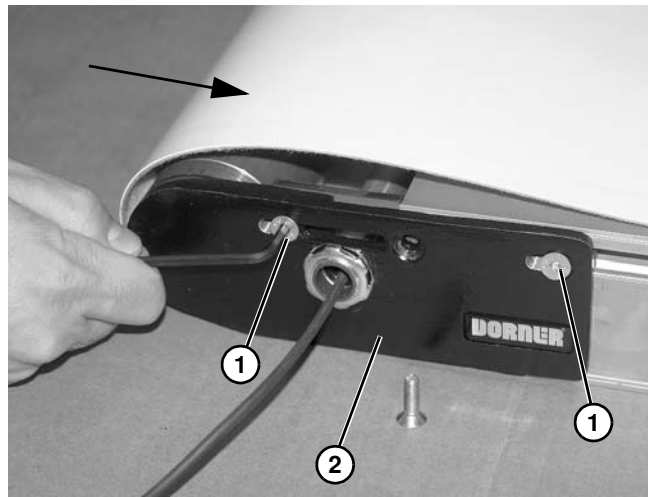

Figure 98
3. Loosen screws (Figure 98, item 1) from idrive head plate (Figure 98, item 2) on each side of conveyor. Push head plate inward toward conveyor.